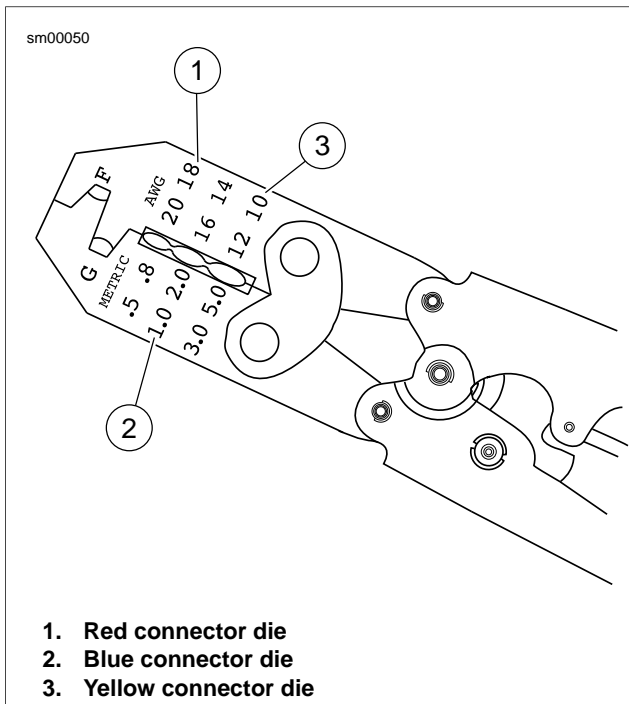

Figure A-54. Packard Crimping Tool (HD-38125-8)
- See Figure A-54. Open the PACKARD CRIMPING TOOL (Part No. HD-38125-8) ratchet by squeezing the handles closed.